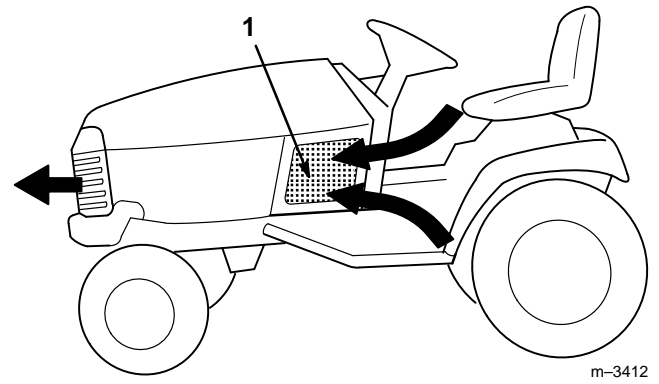

Figure 8
- Check for debris on the (3) air intake screens (Fig. 8). Wipe away debris before each use and/or during use, if required.